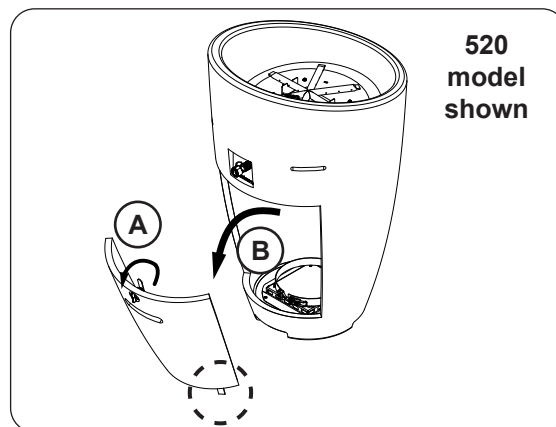

Fig. 19-2 Remove storage door (if applicable)
2. If equipped remove the storage door by first turning the door handle counter-clockwise, then carefully pulling the door outward (see Fig. 19-2). Store in a safe location.